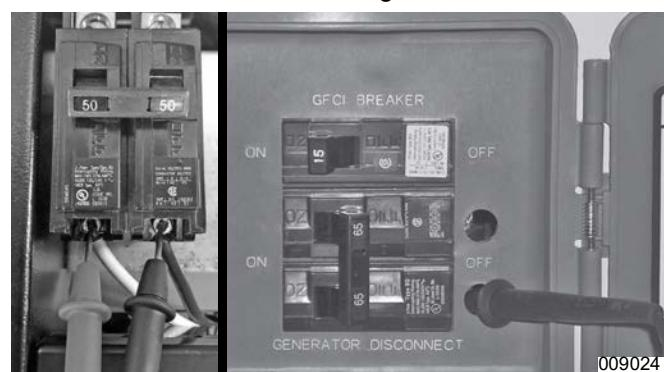

Figure 2-6. MLCB Test Points 2017 and Newer (Left) Pre 2017 (Right)
2. See **Figure 2-6**. With the engine shut down, connect the meter test leads across the load terminals of the generator MLCB. This will measure line-to-line voltage.